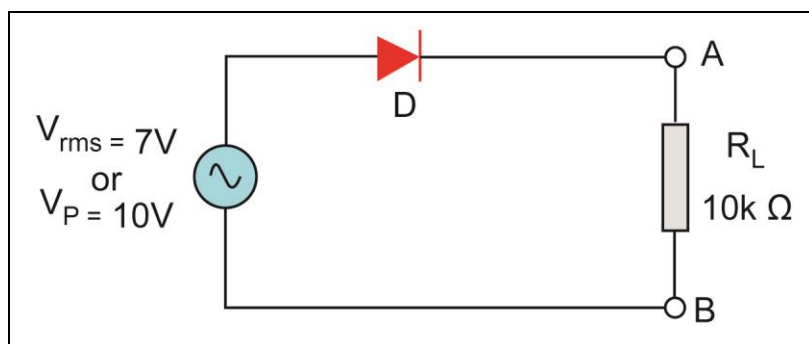

Fig. 2-1 Half Wave Rectifier
1. With the ETW-3600 turned off, construct the circuit shown in Fig. 2-1. Make certain that the banded end (cathode terminal) of the diode connects to R_L .